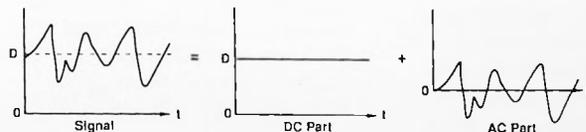

Figure 1. Representing a signal as the sum of a DC plus AC part.
Any signal can be represented as a DC voltage plus an *alternating current (AC)* voltage. Because AC signals switch polarity with the passage of time, they can only be time-varying. The DC component, on the other hand, is by definition, constant: it is the amount by which the average value of the AC component is shifted from zero volts. This is shown graphically in Figure 1. Hereafter, we'll deal only with AC signals remembering that we can shift them as needed by simply adding a DC voltage.